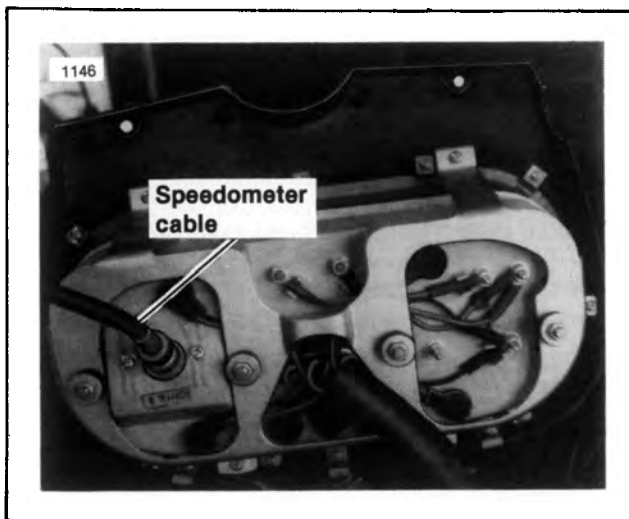

Figure 2-115. Speedometer Cable Location
2. See Figure 2-115. Disconnect the speedometer cable. Lift head up and out of the way. Disconnect the wiring connectors and remove assembly.
14. Connect the speedometer cable (Figure 2-115) and replace instrument head in support housing. Connect wiring connectors. Make sure no wiring is crimped.